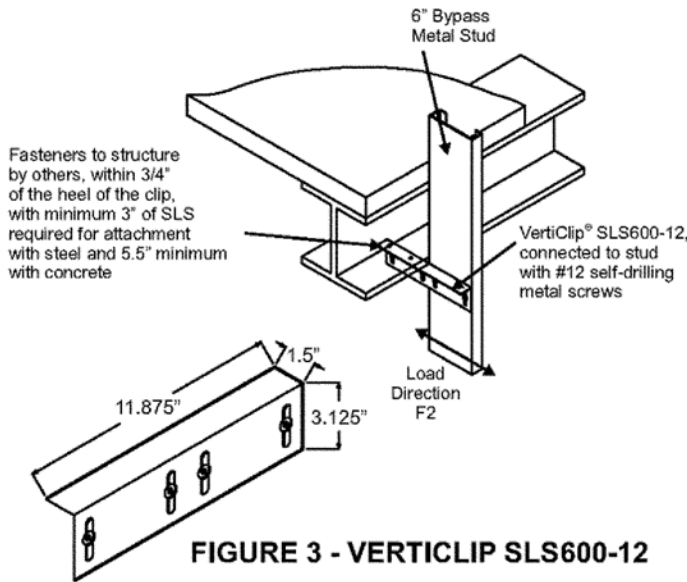

FIGURE 3 - VERTICLIP SLS600-12
3.1.4 VertiClip® SLS: The VertiClip SLS600–12 is an L-shaped angle that connects 6-inch-deep (152 mm) exterior curtain walls to a building's structural steel spandrel beam or structural concrete floor slab, while allowing for a maximum of 1½ inches (38 mm) of vertical movement between exterior wall elements and the primary structure. The minimum base-metal thickness of the clip is 0.0677 inch (1.7 mm). The designation –12 following the model number SLS600 represents the total length, in inches, of the connector. The end of the connector that is attached to the curtain wall framing members has two or three vertical slots, each ¾ inch (9.5 mm) wide by 1⅞ inches (47.6 mm) long. Refer to Figure 3 for overall dimensions of the Verticlip SLS600–12 connector and a typical installation detail.